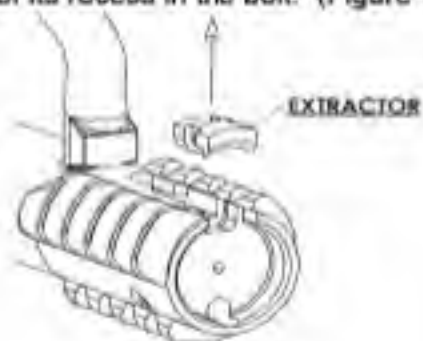

Figure 15.
3. Lift the extractor out of its recess in the bolt. (Figure 15.)